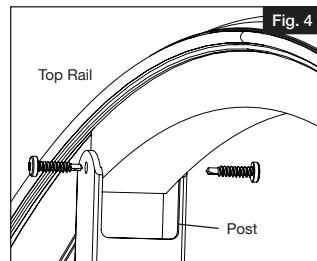

Fig. 4
- Drive #8 x $\frac{3}{4}$ " self-tapping screws into post holes and through rail holes (one on each side). Do not tighten completely (Fig. 4). Do for both top and bottom posts.